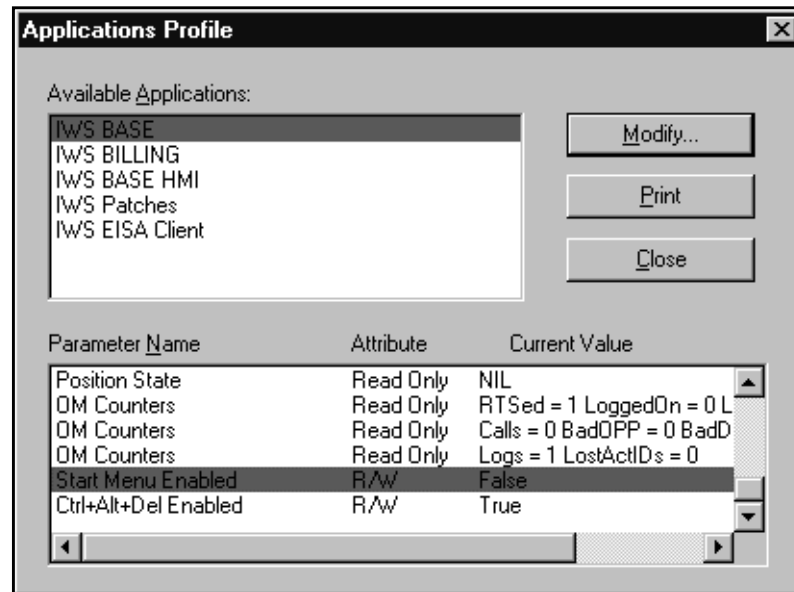

FIGURE 81. Applications Profile Window
- a. Use the down arrow key to highlight the name IWS BASE in the Available Applications box. An example window is shown in Figure 81.
With the parameter Start Menu Enabled set to False as shown in Figure 81, the Ctrl+Esc command at the target position cannot be used to open the Windows Start menu from the IWS logo window. And Alt+Tab cannot be used at the target position to cycle from the IWS logo window to another currently running application.